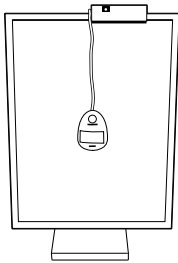
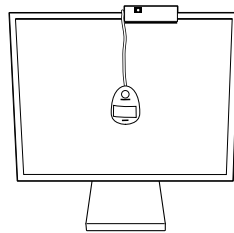

Figure 5
Figure 6
3. Set the MD-N2M5B on top of the display, with the Clamp Block hanging behind the monitor (**Figure 3, Figure 5, Figure 6**).
8. Click "Calibration for MD-N2M5B (Retractable)". The correlation of the MD-N2M5B Retractable Sensor to the Reference Sensor will begin. When instructed, place the Reference Sensor where indicated on the display (**Figures 5 and 6**). Click "OK".